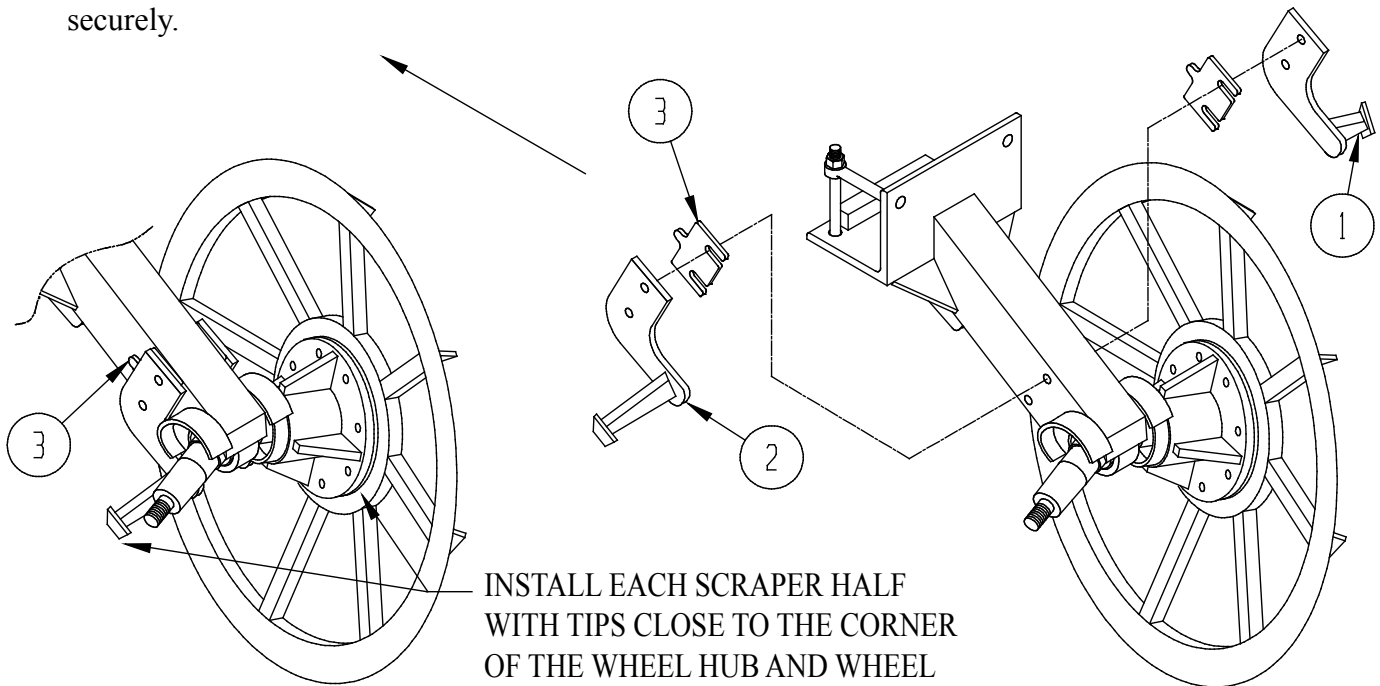

FIGURE 3
Step 3: Install lifter wheel scrapers using (2) 1/2 x 4 1/2 hex bolts, hex nuts, lock washers and shims furnished as shown in Figure 3. Install with the tips of the scrapers, items #2 & #3, close to the corner of the wheel hub and wheel. Add or remove shims, item #3 as necessary. Tighten securely.